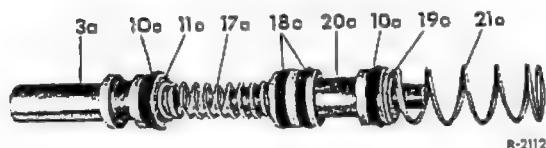

Fig. 42-3a/29
5. Insert the fitting sleeve (29) in the housing (22) (Fig. 42-3a/28).
7. Slide the piston cup washer (9a), the primary cup (10a), the thrust ring (11a), and the spring retainer (19a) together with the pressure spring (21a) on the intermediate piston (20a). (Figs. 42-3a/27 to 29).
8. Slide the intermediate piston assembly (20a) into the housing. Do not use force since otherwise the cups may be damaged (Fig. 42-3a/29).